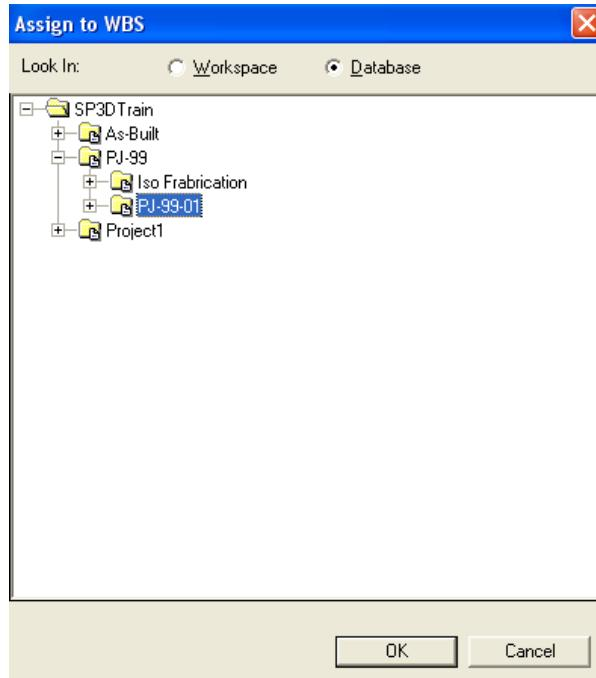

Figure 9: Assign to WBS Dialog Box
- Select the WBS item **PJ-99-01**, as shown in Figure 9 and click **OK** in the **Assign to WBS** dialog box.